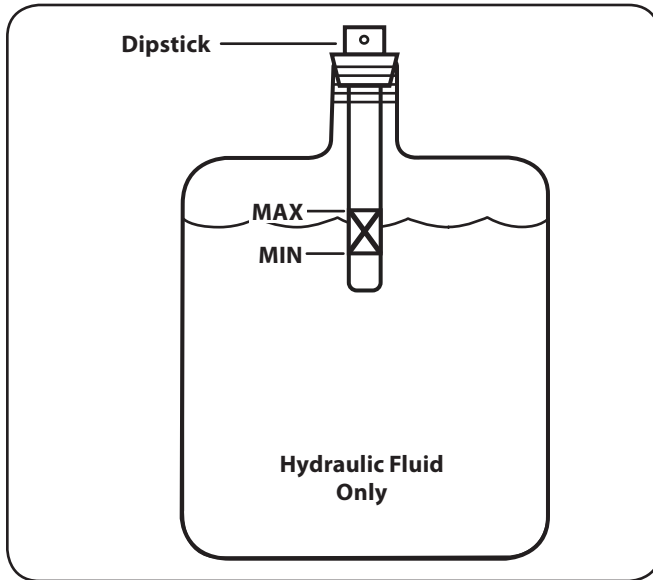

Figure 6-3
- If necessary Refill the reservoir within range marked on the dipstick. See Fig. 6-3.